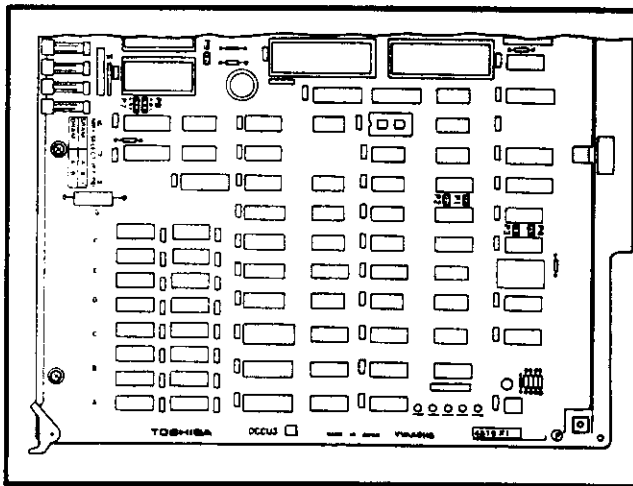

FIGURE 21—DCCU PCB CONNECTION PLUGS and STRAPPING
05.74 Prior to installation, a DCCU card requires manual strapping in order to designate specific memory type as either SRAM or DRAM (Figure 21). The Static RAM (SRAM) memory must be selected in order to provide data protection for Lodging/Health Care customer data, while the Dynamic (DRAM) memory must be selected for use in a Business system. Strapping requirements for each of these memory options are as follows: